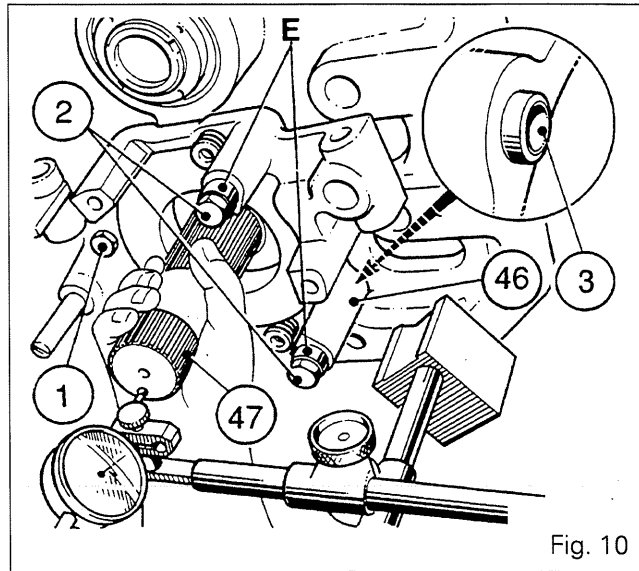

Fig. 10
27. Place bearing cup (44) in the support (46) without shims [45]. Position the support with pin (3) on the housing using bolt (1) and bolts (2) fitted with locally manufactured spacers «E». Tighten to a torque of 85 to 128 Nm (Fig. 10).
29. Place the dial gauge tip at the end of output shaft **(47)** (Fig. 10).
34. Remove screws **(1)** **(2)** and support **(46)** (Fig. 10).
36. Reassemble the cup. Refit the support. Tighten screw **(1)** to a torque of 85 - 128 Nm (Fig. 10).